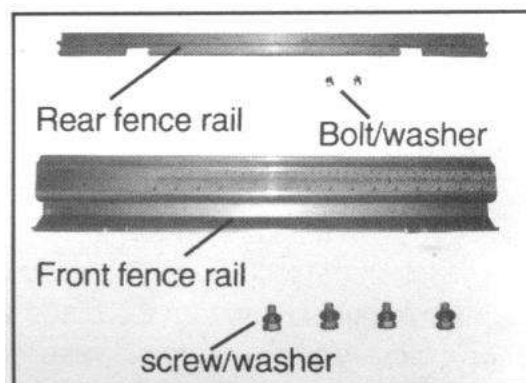

Fig.3
Install the rear fence rail to the table with (4) M6-1.0×20 hex bolt and (4) flat washer M6(Fig.3)
Install the front fence rail to table with (4) screw and (4) flat washer M8 (Fig.3).
b) Remove the rip fence rail from the front of the table by releasing the 4 thumb screws (Fig.3 on page 5).
i) Replace the rip fence guide, and retighten the 4 thumb screws (Fig.3 on page 5).